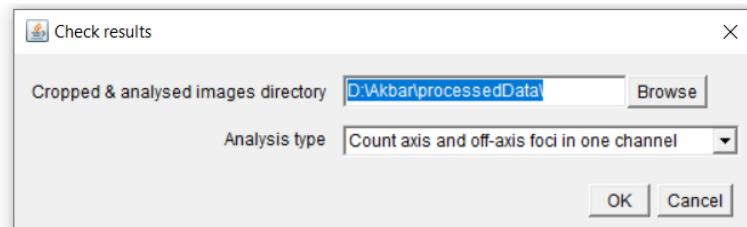

Figure 6.8. The check results menu
STEP7. To control the analysis accuracy, whenever the save ROIs option was selected, use the “Start checking results” in the main meiosis bar. The “check results” window pops up (figure 6.8). If you just run the macro, then the default folder and method are OK. If you control afterwards the macro’s results, set both folder and “Count axis and off-axis foci in one channel”.